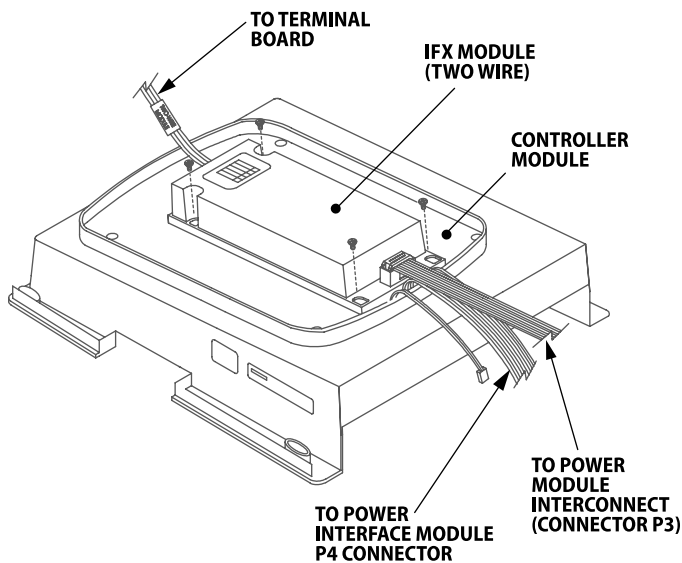

Figure 7
2. Use four #4-40 machine screws to attach the 2-Wire module to the bottom of the control module, as shown in Figure 7.